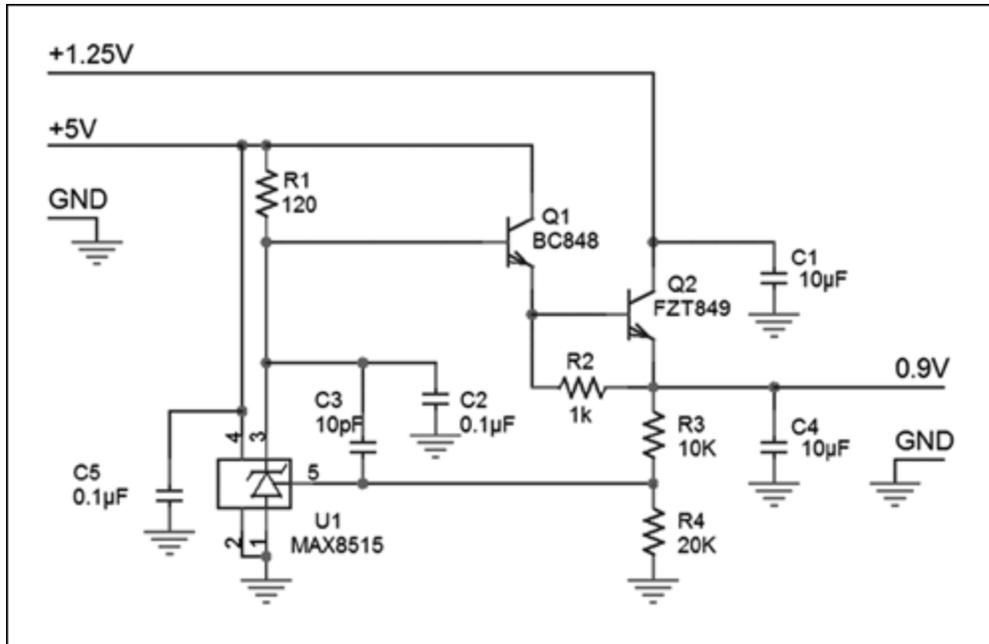
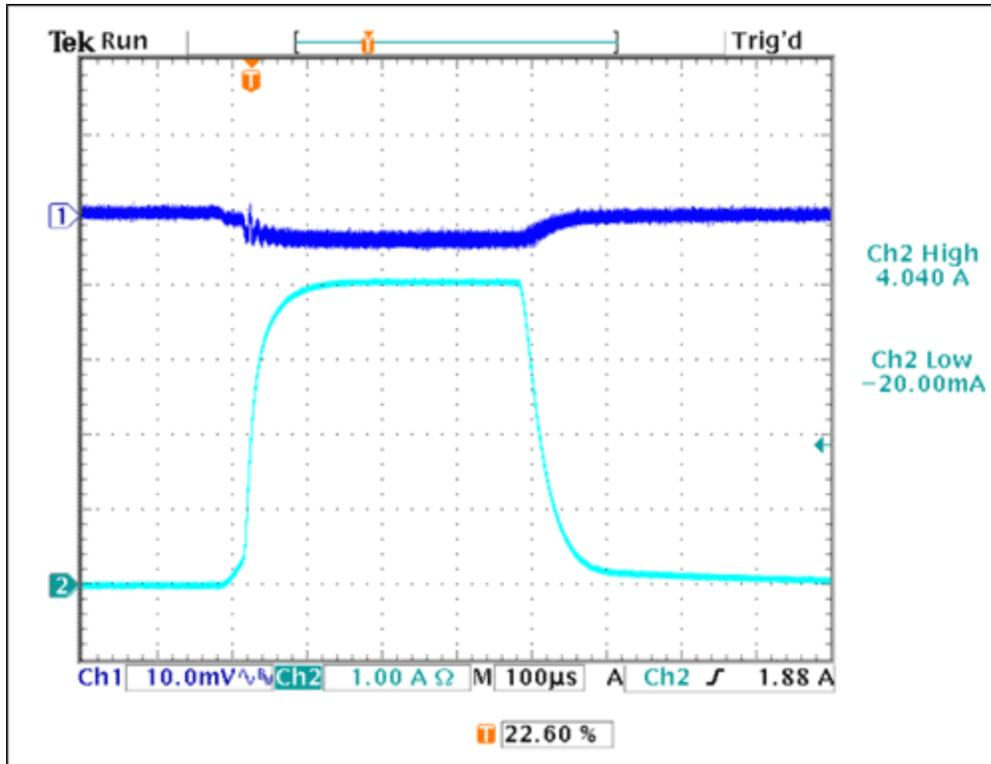

Figure 1. Multiple supply voltages enable this linear regulator to achieve outstanding performance.
Figure 2. The regulator output of Figure 1 withstands a 4A transient with little change.
Many complex systems feature multiple voltage rails. That design makes it possible to create low-dropout linear regulators with good transient response by connecting a higher voltage supply rail to bias the regulator's internal circuitry. As an example of this approach (**Figure 1**), the circuit uses a 5V supply for internal bias while regulating an input voltage of 1.25V down to 0.9V.
**Figure 2** illustrates circuit performance. A 0A to 4A load transient (lower trace) causes less than 5mV change in the output voltage (upper trace). To obtain this performance, you must exercise some care in component selection. The shunt regulator must have a low feedback threshold and a separate supply terminal, as shown in Figure 1. C1 and C4 must have ripple-current ratings comparable to the desired output current (MLCC ceramic chip capacitors work well). The FZT849 (by Zetex) is a good choice for transistor Q2, which should have adequate gain near saturation.